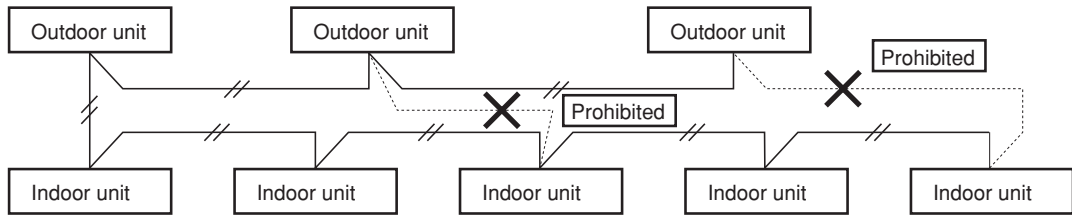

Fig. 3-1
(2) Do not install the inter-unit control wiring in a way that forms a loop. (Fig. 3-1)